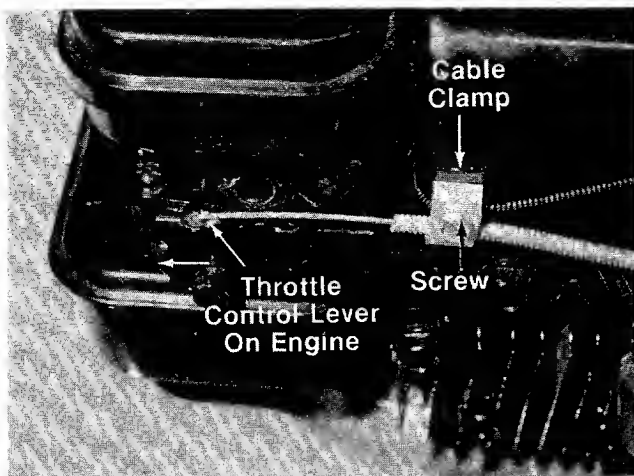

FIGURE 9.
6. Push the throttle control lever on the engine to the full open position (as far toward the outside of the unit as it will go) as shown in figure 9.
8. Loosen (do not remove) the screw on the cable clamp shown in figure 9. Slip the control casing under the clamp. With the throttle lever on the engine still in the full open position, tighten the screw to secure the throttle control cable.
1. Loosen, but do not remove, screw securing throttle control wire assembly at engine. See figure 9.